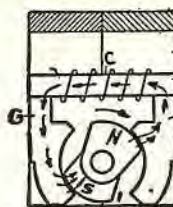

Fig. 6
In Fig. 6, the pole (N) has moved over to (F) and the direction of the flow of flux is reversed, it now flowing from (F) through (C) to (G).